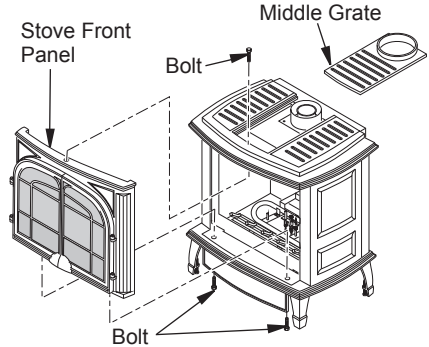

Figure 37 - Removing Front Panel from Stove (Oxford™ Model Shown)
1. If stove front panel is still installed, remove 2 bolts from bottom of stove and one from the top of stove to remove front panel (see Figure 37). For the Oxford stove the middle grate will need to be removed to remove the top bolt.